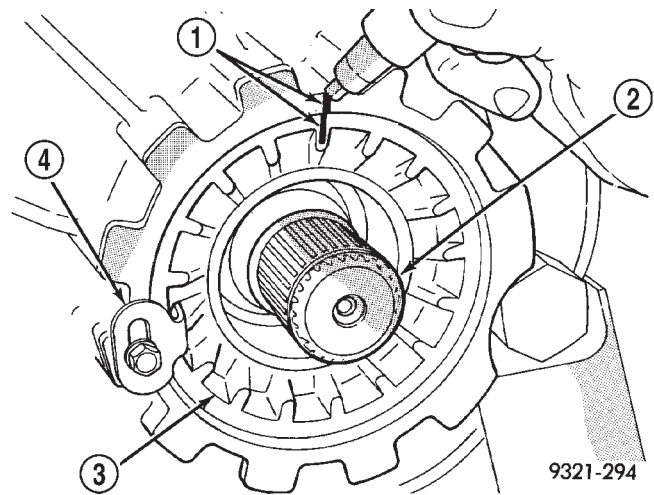

Fig. 115 Indexing Outer Adjuster
(4) Index outer adjuster (Fig. 115). Remove lock bracket and back out adjuster exactly one revolution. Then remove differential cover.
(5) Remove The inner adjuster lock bracket. Then remove the inner adjuster.